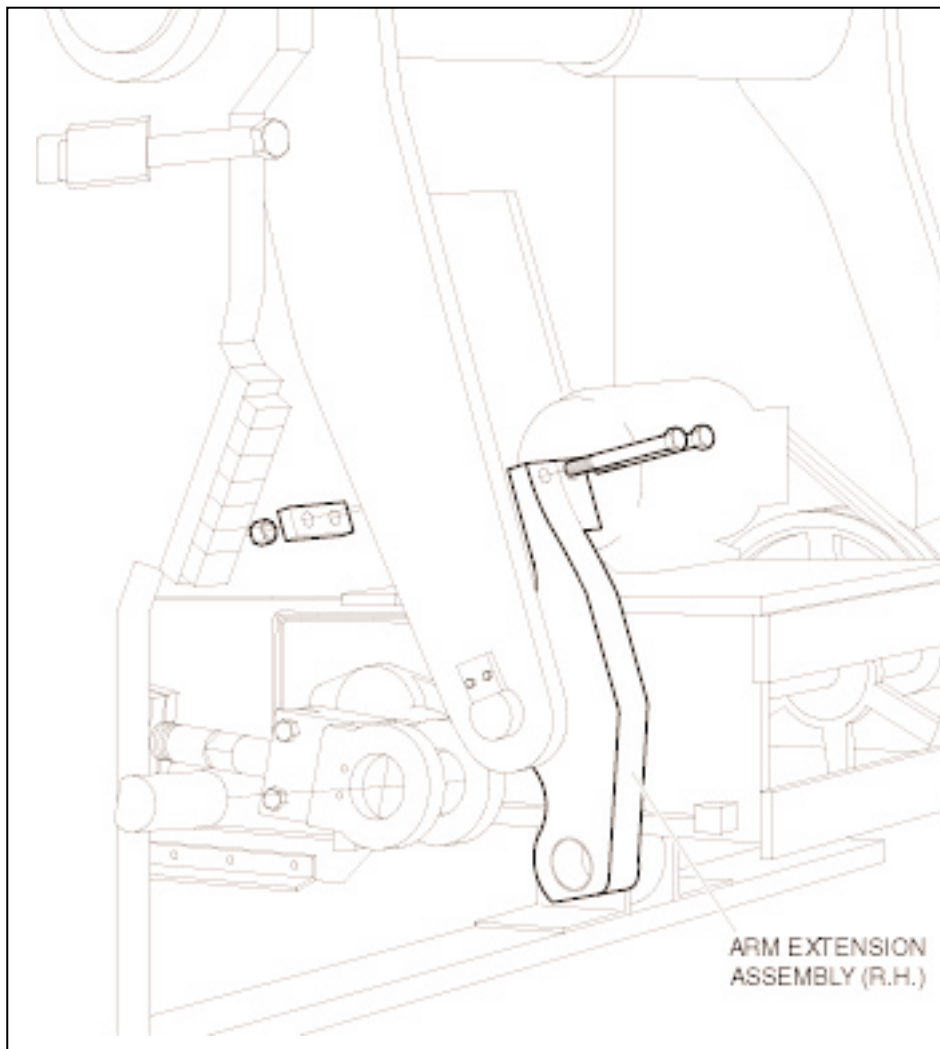

Figure 19.10 REMOVING THE ARM EXTENSION ASSEMBLIES.
- 19.2.1 Remove arm extension assemblies #472905 on LH arm and #472906 on RH arm (figure 19.10).